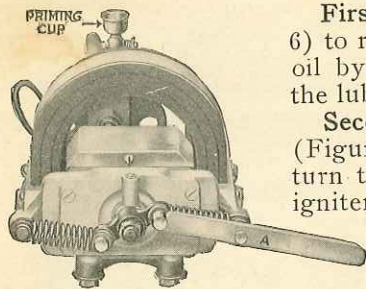
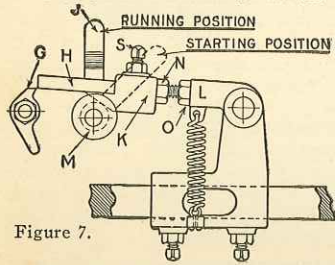
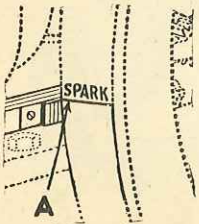
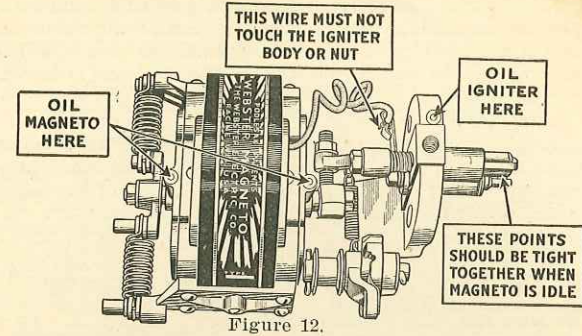

Figure 6.
Figure 7.
Figure 13.
Figure 12.
**First.** Open the priming cup (Figure 6) to relieve compression and turn on the oil by raising the small lever on top of the lubricator.
**Fifth.** Use tripping lever "A" (Figure 6), which you will find on the magneto, and cock the springs as shown.
**Second.** Turn flywheels to the right until the piston starts back into the cylinder on the compression stroke, then continue to turn them slowly until the word **Spark** on the rim of the flywheel is opposite the top of the cam rod (Figure 13). This is the point at which the spark should be made.
**Third.** Place the tripping lever "A" (Figure 6, page 3) on the magneto and cock the springs as shown. Be sure the timing lever "J" (Figure 7) is in the running position.
**Fourth.** See that the screws which fasten the clamp to the push rod are tight and that the screw nearest the cylinder head is in the hole in the bottom of the cam rod. Then adjust the length of push rod "H" (Figure 7) until the end of the rod touches the push finger "G." and tighten locknut "O."
**Sixth.** Be sure the magneto wire is fastened to the terminal (Figure 12, page 7). Turn the flywheels to the right to see if the magneto trips off when the word **Spark** on the flywheel is opposite the top of the cam rod (Figure 13). If not, adjust the wedge "K" (Figure 7) carefully until it does.